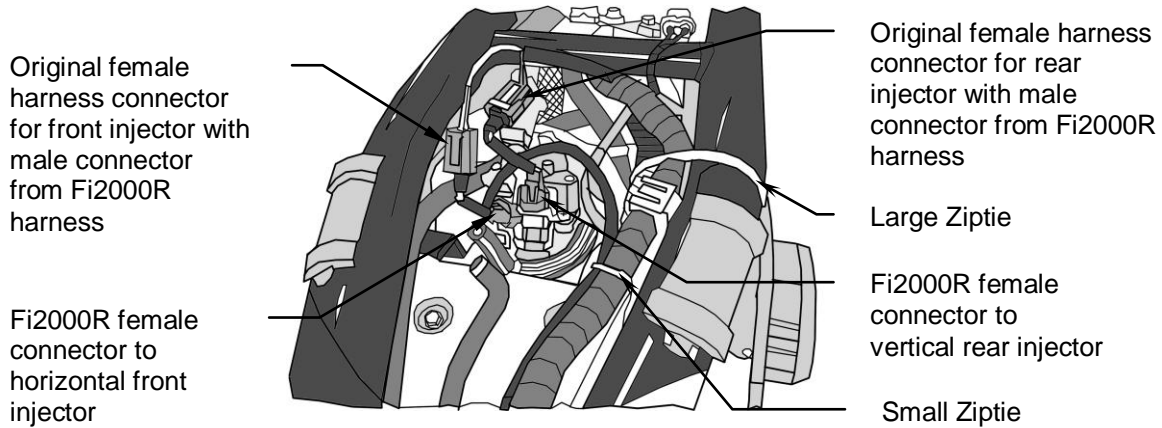

FIGURE 1
3. Place the Fi2000R module near the fuel tank, and feed the wires under the frame forward of the battery and up the right side of the bike following the stock wiring harness. Locate the fuel injector connectors and release them by pushing the lock tab while pulling gently on the connector. Note, which is front and rear, as they are *NOT* marked. Now plug the Fi2000R gray connectors on to the injectors, the long Fi2000R harness lead plugs into the front cylinder injector, Figure 1. Reattach the original injector connectors into the corresponding black Fi2000R connectors.